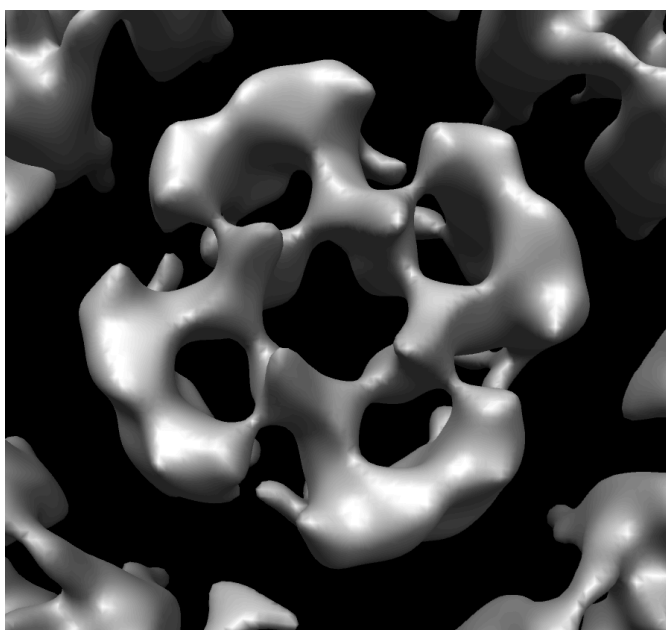

Figure 56: The 3D volume of the GlpF example data set.
18. Now you can include images of higher tilt and align them to your 3D reference with the *Refine Once* script. The procedure of the refinement is done as before, so you should redo all the steps from item 7 to here. Remember that you can now decrease the parameter *zstarwin*.
22. The final step in the 3D reconstruction of your structure is the calculation of the 3D map. This can be achieved with the *Generate Merged Map* script. This creates a volume in CCP4 format named *MAP: Final 3D Volume*. You can examine the result in Chimera by double-clicking it. With the example data set of GlpF the 3D map reconstruction should look similar to Figure 56